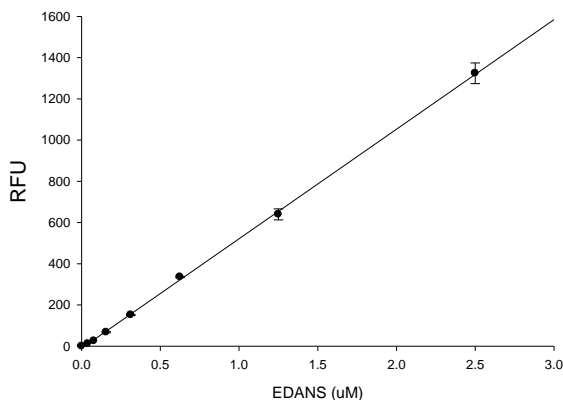

Figure 1. EDANS reference standard calibration curve.
- Plot EDANS fluorescent reference standard as RFU (relative fluorescent unit) versus concentration as **Figure 1**.